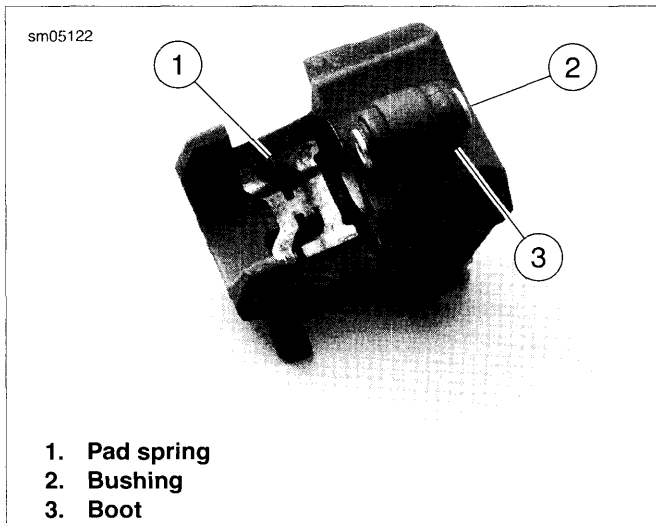

Figure 2-115. Assemble Caliper
1. See Figure 2-115. If removed, install bushing boot (3) in caliper.
2. Apply approximately 0.4 g of G40M BRAKE GREASE inside caliper bushing boot (3).
3. Insert caliper bushing (2) into boot. Ensure lips of boot are engaged in grooves at either end of bushing.
4. Install pad spring (1) in caliper housing. Ensure spring is installed in the orientation shown.